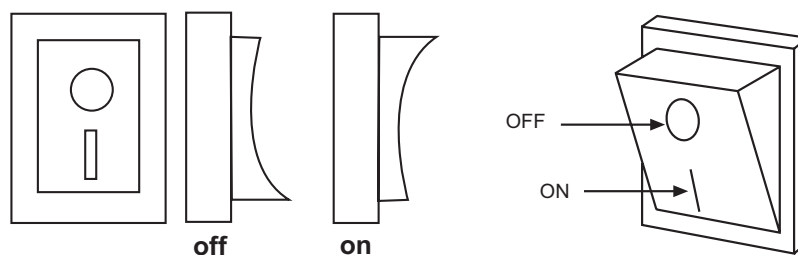

FIG. 1
- To switch the machine off press the button again (Fig.1)